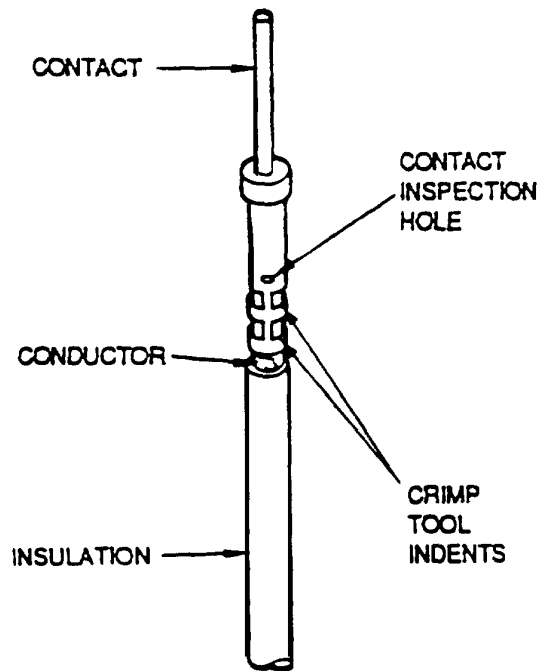
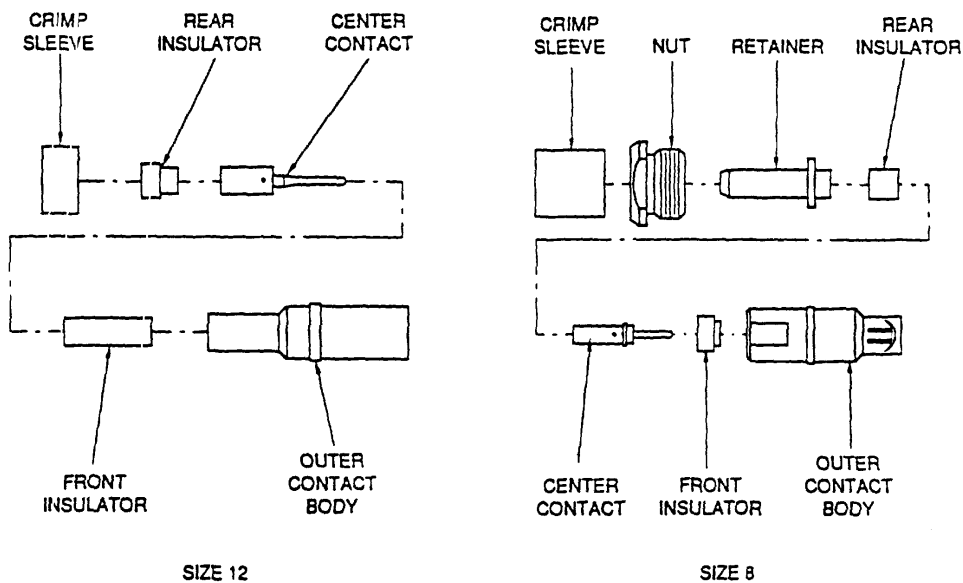

Figure 3. Crimp Joint Inspection
Figure 4. Typical Coaxial Shield Assembly
(1) Two series of four indents shall secure contact to wire (Figure 3).
(2) Wire strands shall be visible in contact inspection hole, indicating that wire is crimped into contact at correct depth.
(3) Verify insulation gap is within limits specified in applicable work package.
(4) Wire strands shall not be nicked or loose.
(5) New contact shall not be nicked, bent, or distorted. Refer to WP 004 01 for minor repairs to in-service contacts.
10. COAXIAL CONTACT CRIMPING AND ASSEMBLY. A coaxial contact may be crimped and assembled in numerous ways. The assembly procedures provided herein are for general assemblies. Refer to applicable connector series work package in NA01 1A-505-2 for specific tooling and procedures. A typical example of a coaxial contact assembly is shown in Figure 4.